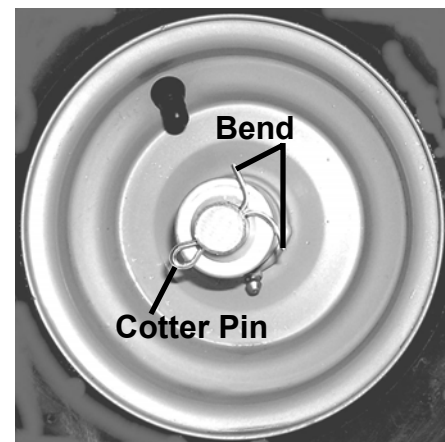

Figure 5
11. Insert a cotter pin through the hole in the axle and bend the top of the cotter pin over to retain it in the assembly (*Figure 5*).